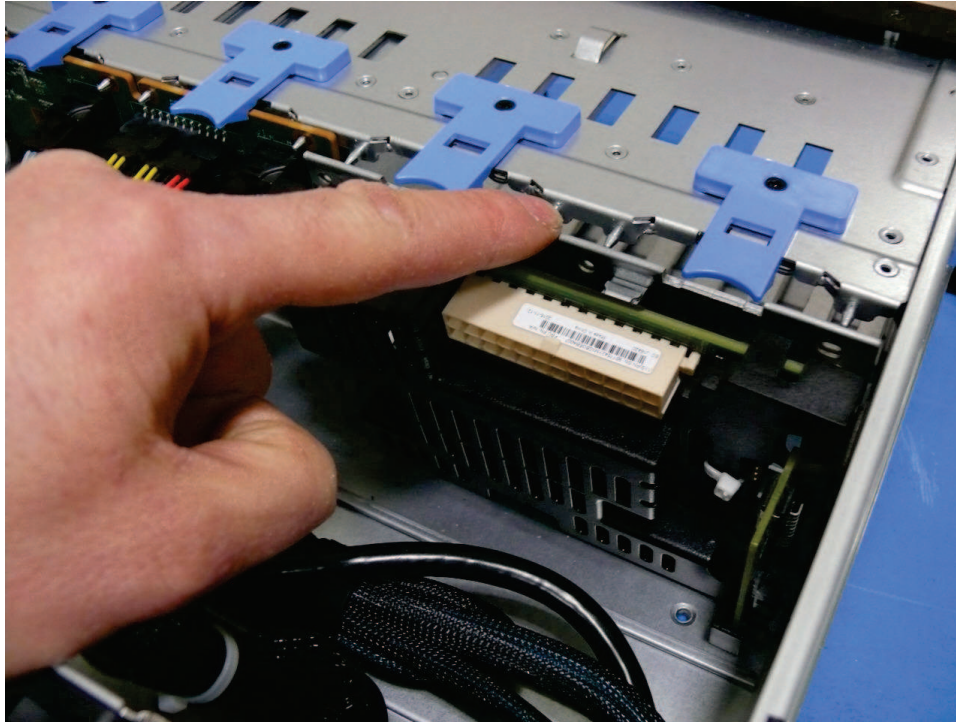

Figure 112. Battery backplane in the 2145-SV1 chassis
6. Fit the lower edge of the battery backplane into the chassis. Push the top into position until it locks in place, as shown in Figure 112 on page 134.